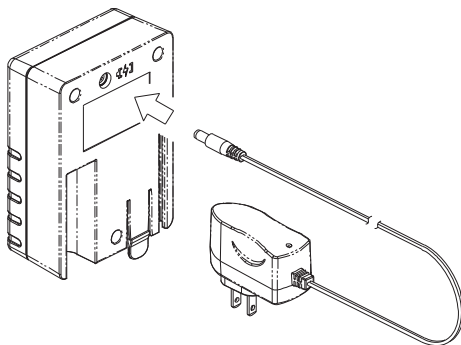

Fig. 7. Plug in the Charger
2. Plug the charger into the Charging Socket on the Battery Pack. - see Fig. 7.